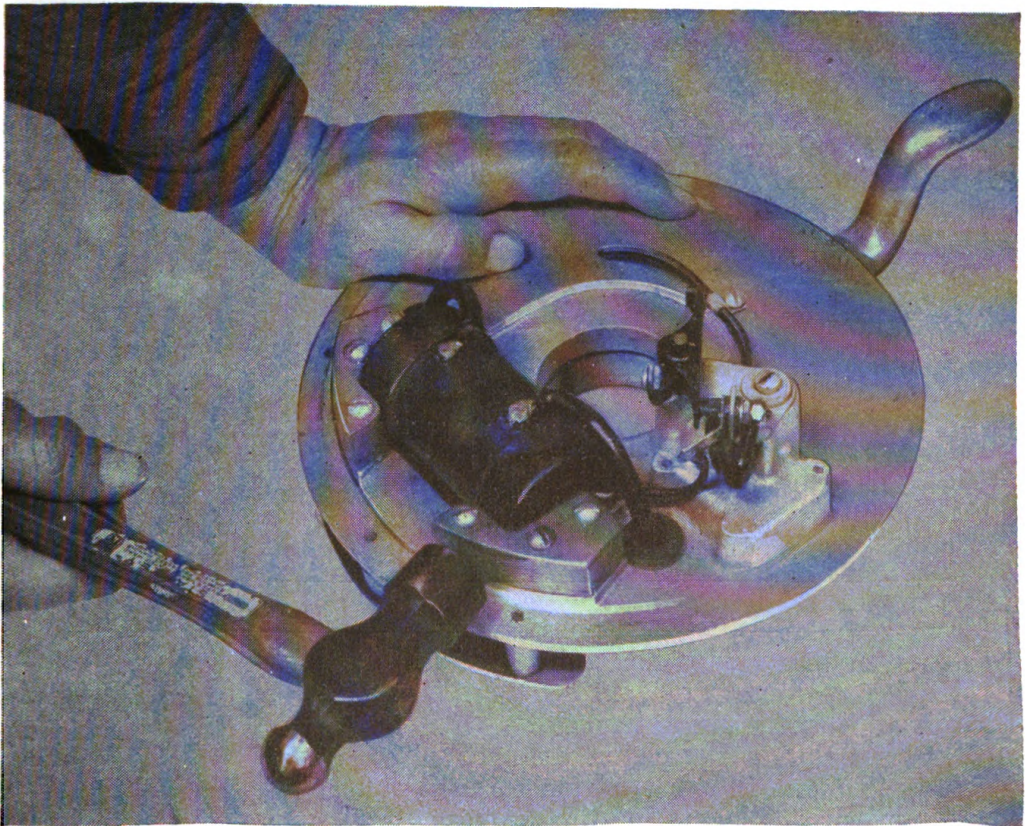
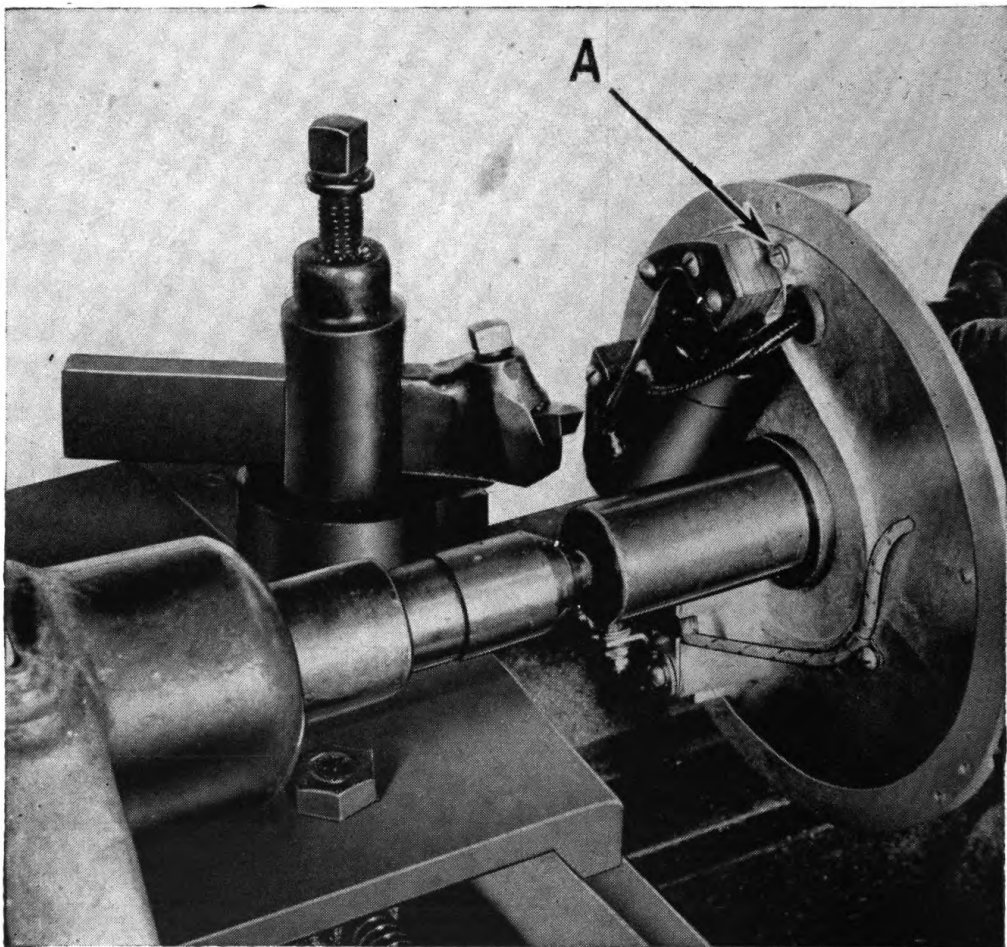

Figure 99. Setting coil heels flush with boss on armature plate.
Figure 100. Turning down heel assemblies.
(3) Coil heels must be made flush with boss armature plate (figs. A, 99 and 100) to prevent striking pole shoes of magnet in the flywheel when motor is in operation. This is done by tapping heel assemblies with hammer as illustrated (fig. 99) or, if a lathe is available, by mounting armature plate assembly on a mandrel between centers and turning heel surfaces down until flush with boss on armature plate. (See A, fig. 100.) Having completed this operation, draw down farther on all screws in heel assembly to make certain coil is mounted securely.